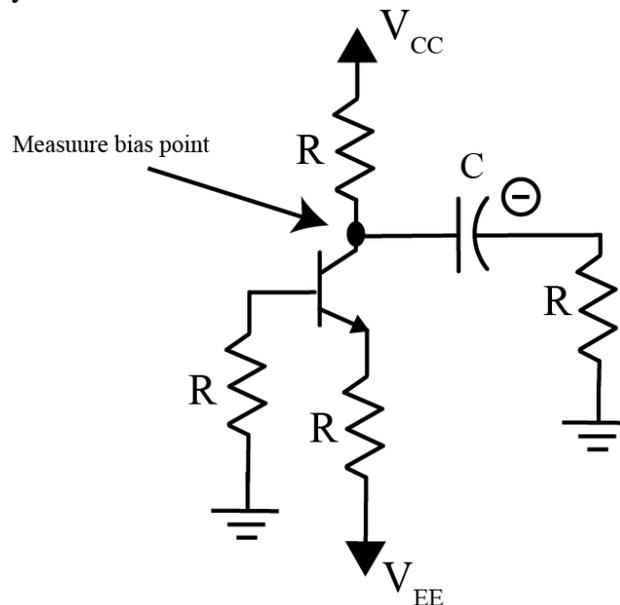

Figure 5: Biasing the transistor circuit.
2) Now we will build the circuit subsystem shown in Figure 5. Turn off the power while wiring, and then turn the power back on when you want to make measurements. Note that the collector is connected to the +9 volt source  $V_{CC}$ , the emitter is connected to the -9 volt source  $V_{EE}$ , the base is connected through a resistor to ground, and the collector is also connected through an electrolytic capacitor (note the negative sign!) in series with a resistor to ground. It is probably easiest to have the transistor straddle the middle of the breadboard.
- 3) Connect a probe from scope channel DC2 to the measurement point as shown in Figure 5. Turn the power on, and measure the signal at the bias point. Be sure you are triggering off of channel DC1. If you have done everything correctly, you should get a voltage between 2.0 and 3.5 volts. Do not go on until you get this correct!